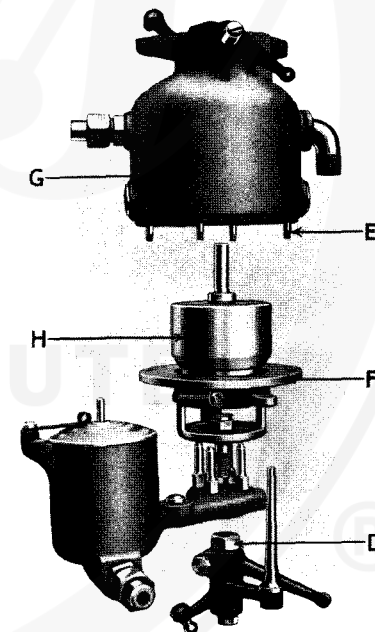

Fig. 34.
5. Unscrew the jet platform stud (D - Fig. 34), which is then removed together with the air control lever, throttle spring arm, jet platform and float chamber.
Remove the four nuts from studs (E - Fig. 34) which secure the choke pillar flange (F) to the carburettor body (G), lower the choke pillar and float chamber until clear of the carburettor body and remove.
The automatic piston valve (H - Fig. 34) is not attached to the choke trunk and can be readily withdrawn.